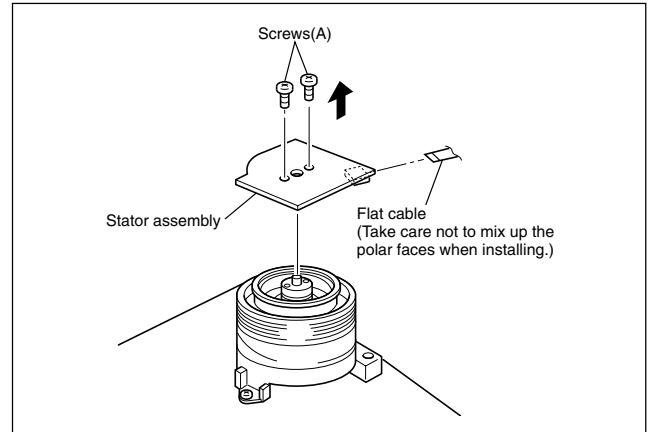
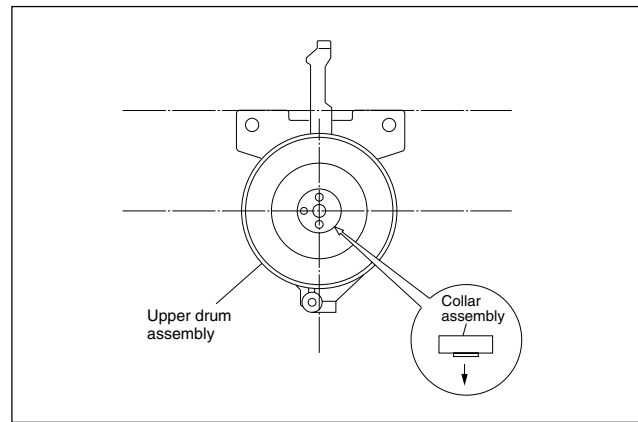

Fig. 2-2-23a
Fig. 2-2-25c
- (3) Install the cap to the upper drum assembly.
- (4) Position the collar assembly as indicated in Fig.2-2-25c while controlling its up-down movement.
- (5) Secure the collar assembly in position with a hexagonal wrench while pressing its top with the fingers.
- (6) After installation, gently turn the upper drum assembly with your hand to make sure that it turns normally. Then install the brush and the spring.
- (7) Install the rotor assembly and stator assembly according to Fig 2-2-23a and 2-2-24a.
- (8) When installation is complete, clean the upper drum assembly and lower drum assembly and carry out the following adjustments.